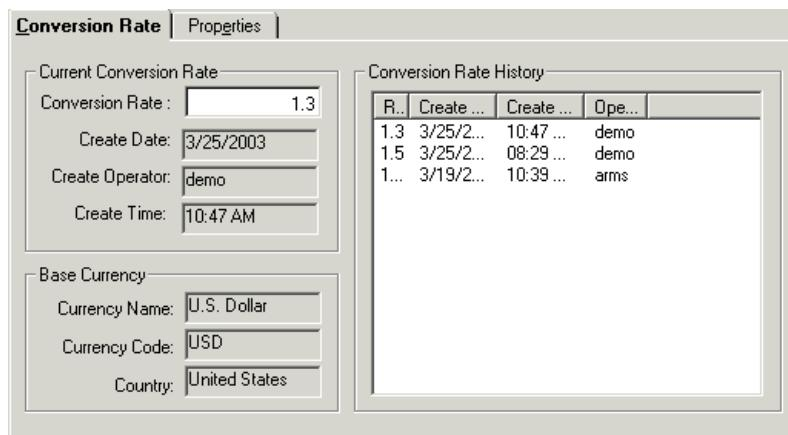

Figure 3-6. Currency Maintenance dialog box - Conversion Rate tab
- Conversion Rate History information (see Figure 3-6)